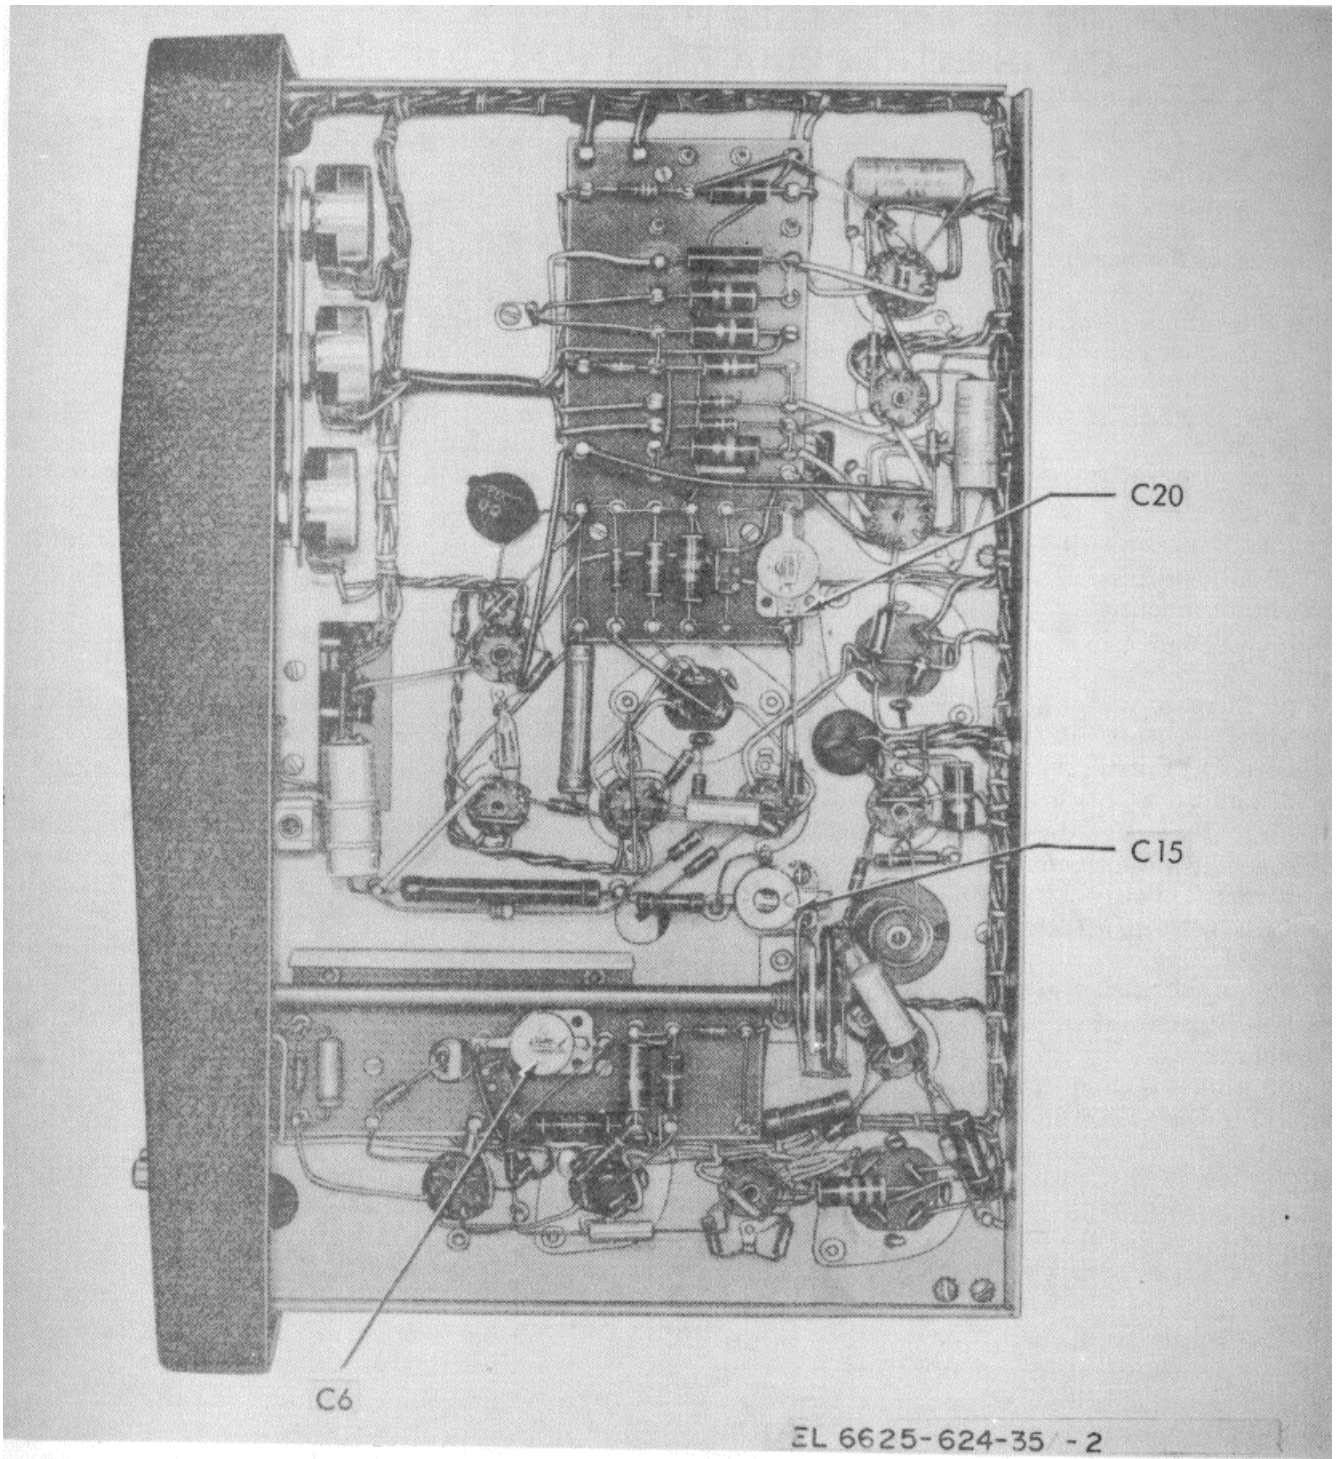

Figure 1. Electronic Voltmeter - right view or bottom view for rack mounted models.
(1) Adjust signal generator frequency to 400 kHz, keeping output amplitude to value recorded in a(3) above.
(2) Adjust C6 and C20 (fig. 1) in equal amounts until TI indicates 100 millivolts (R).
(3) Turn POSITIVE-NEGATIVE switch to NEGATIVE.
(4) Adjust C15 (fig. 1) until TI indicates 100 millivolts (R).
(5) Turn POSITIVE-NEGATIVE switch to POSITIVE.
(6) Repeat a(3), (4), and (5) above.